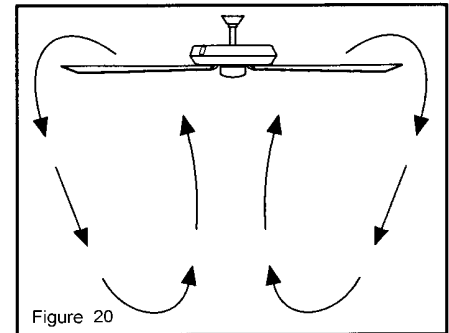

Figure 20
**Cool weather** – (Reverse) An upward airflow moves warm air off the ceiling area as shown in Figure 20. This allows you to set your heating unit on a lower setting without affecting your comfort.